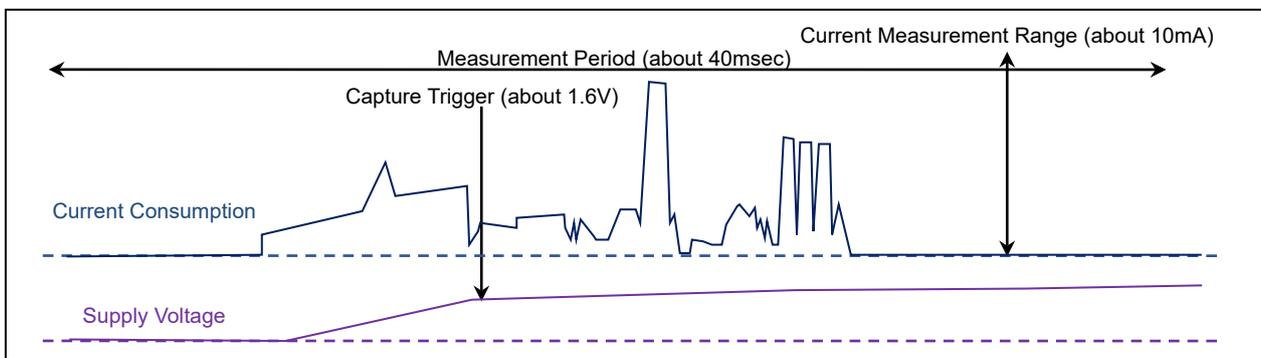

Figure 4-5 Measuring Current Consumption in Starting-up Beacon Application
2. Set below settings to Oscilloscope by referring to **Figure 4-5**.